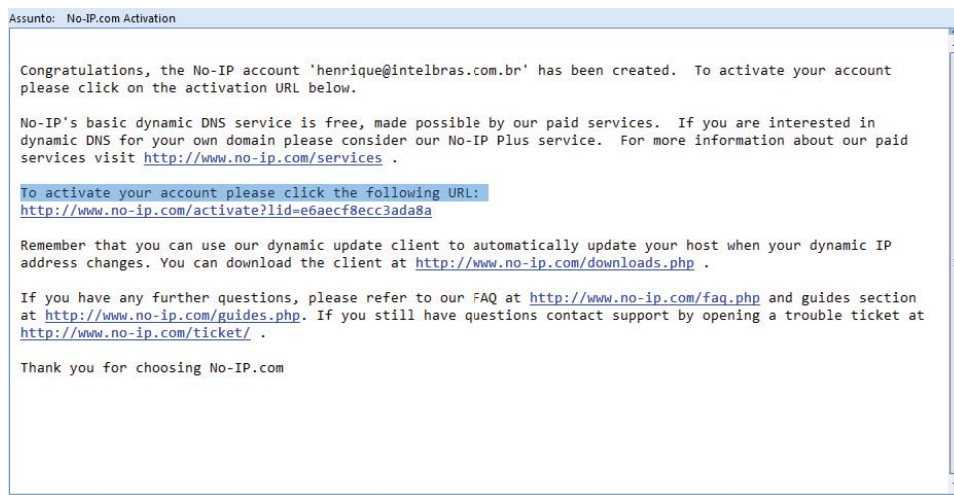

Figure 14-4
- Open the e-mail sent by trusted rmação No-IP and double-click the link that is below the phrase "To activate your account please click the following URL:" in the body of the email. See Figure 14-4.